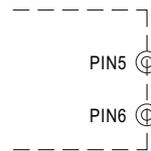

Fig. 4.2 Remove the CN1
- (2) Remove the shorting connector on CN1 that is shown in Fig 4.2, the Overload Protection Type will be "constant current limiting".